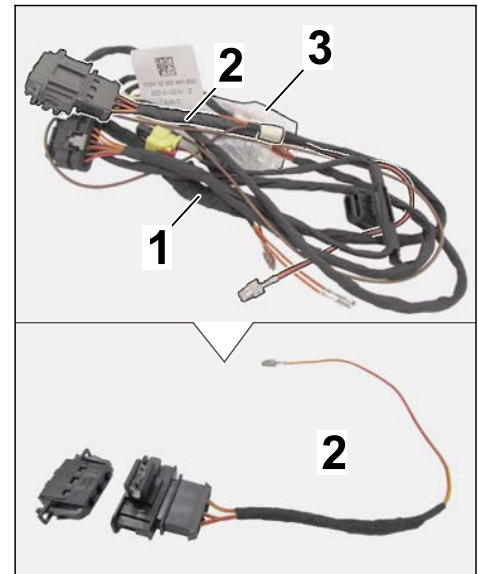
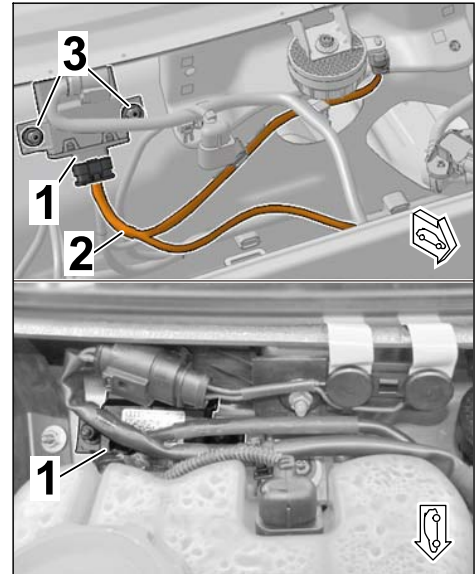

Figure 18
Figure 19
2.1 Release secured adapter cable with plug connection (3-pin) and bag of small parts from electric wire harness for engine noise control unit/pulse sender (⇒ *Figure 18*).
- 3 (2) – Bag of small parts
2.2 Fit engine noise control unit (⇒ *Figure 19*)
2.2.2 Position engine noise control unit on M6 studs (2 x) in the plenum panel and secure with two M6 hexagon nuts (\Rightarrow Figure 19).
- 3 (2) – Hexagon nut, M6